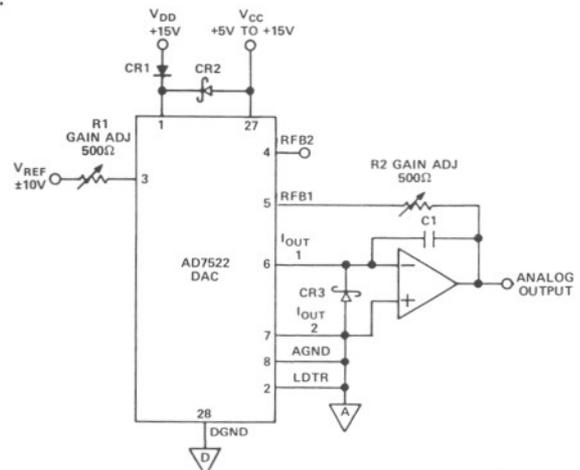
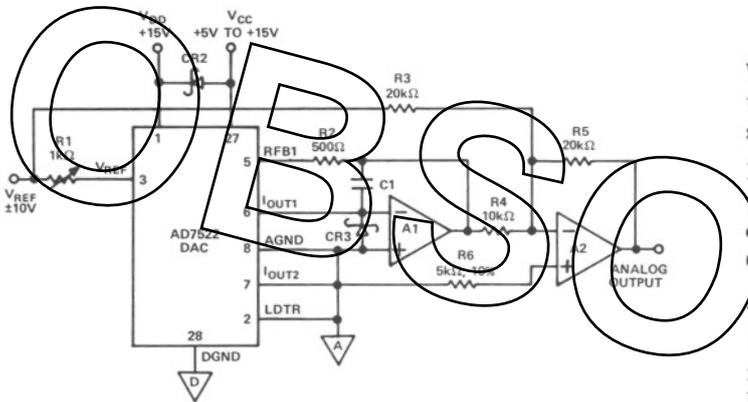

Figure 3. Unipolar Binary Operation (2-Quadrant Multiplication)
Figure 4. Bipolar Operation
## APPLICATIONS (Note: Protection Schottky CR3 in Figure 3 and Figure 4 is not required when using TRI-FET amps such as the AD542 or AD544).
Figure 3 shows the analog circuit connections required for unipolar operation. The input code/output voltage relationship is shown in Table 1.
Figure 4 shows the analog circuit connections required for bipolar operation. The input code/output voltage relationship is shown in Table II.
1. CR1 and CR2 on Figures 3 and 4 protect the AD7522 against latch-up  $V_{CC}$  exceeds  $V_{DD}$ , and may be omitted if  $V_{DD}$  and  $V_{CC}$  are driven from the same voltage.
2. Diode CR3 on Figure 3 and Figure 4 clamps the amplifier junction to  $-300mV$  if it attempts to swing negative during power up or power down. The input structures of some high-speed op amps can supply substantial current under the transient conditions encountered during power sequencing. It is recommended that the PC layout be able to accommodate the diodes.